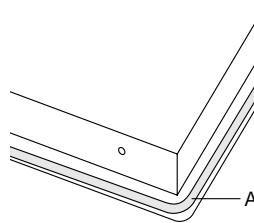

Fig. 4: Sealing strip
- Remove the protective foil from the sealing strip (A) and apply the strip as far out as possible on the underside of the glass (see fig. 4).